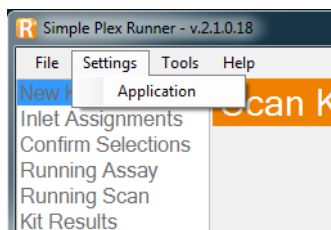
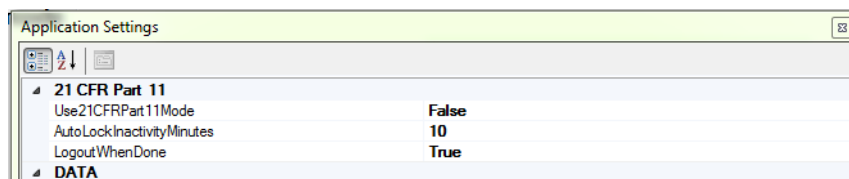
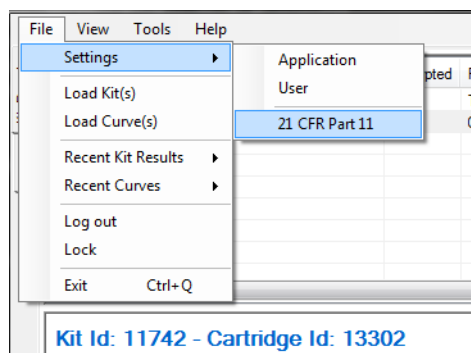
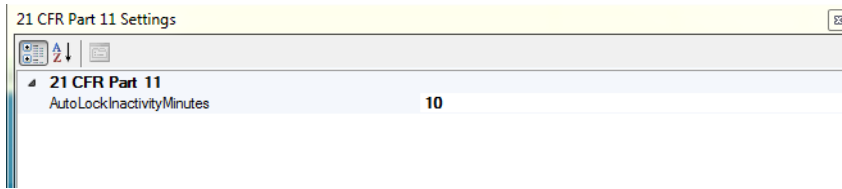

Figure 6-3: Simple Plex Runner Settings menu.
Figure 6-4: Simple Plex Runner Settings dialog.
Figure 6-15: Simple Plex Explorer Settings menu.
Figure 6-16: Simple Plex Explorer Settings dialog.
1. Click **Settings > Application** (Figure 6-3).
The Settings Dialog will display (Figure 6-4):
Simple Plex Runner and Explorer will automatically lock the application after a configurable period of time called **AutoLockInactivityMinutes** that is set to 10 minutes by default. Members of the Simple Plex Admins are permitted to change the settings (Figure 6-3, Figure 6-4, Figure 6-15, and Figure 6-16). Please note that in most cases, Simple Plex Runner will be locked at the completion of a run.